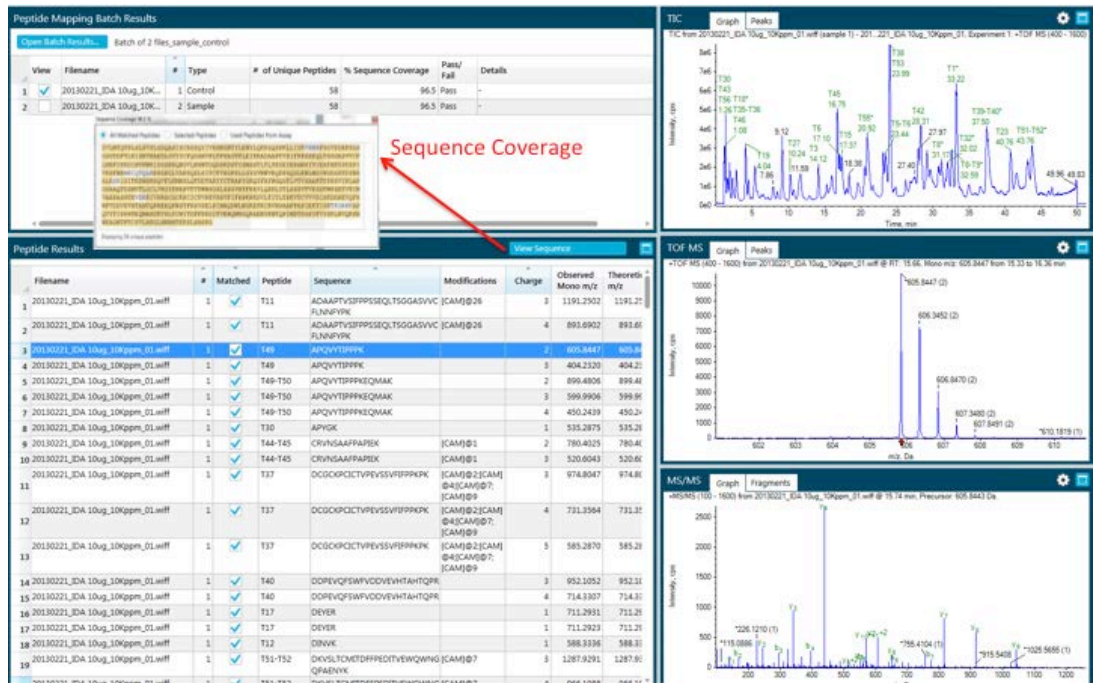

Figure 4: Result review with Batch summary, peptide results, and graphical views.
**Review Results:** The result review contains three types of information: a high level batch summary, detailed peptide results, and graphical views (Figure 4). The batch summary shows QC results and whether each sample passes or fails based on criteria defined in the assay information. The peptide result table reveals details including